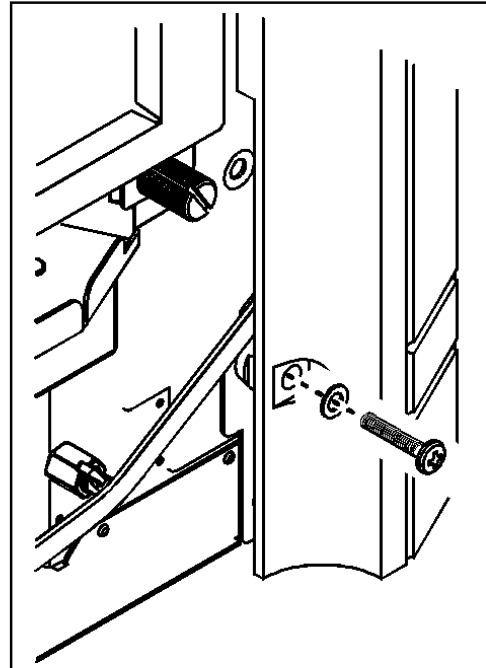

Figure 30.
2. Secure the bottom of the fascia unit to the convection box with two M4 x 25mm screws and washers (See figure 30).